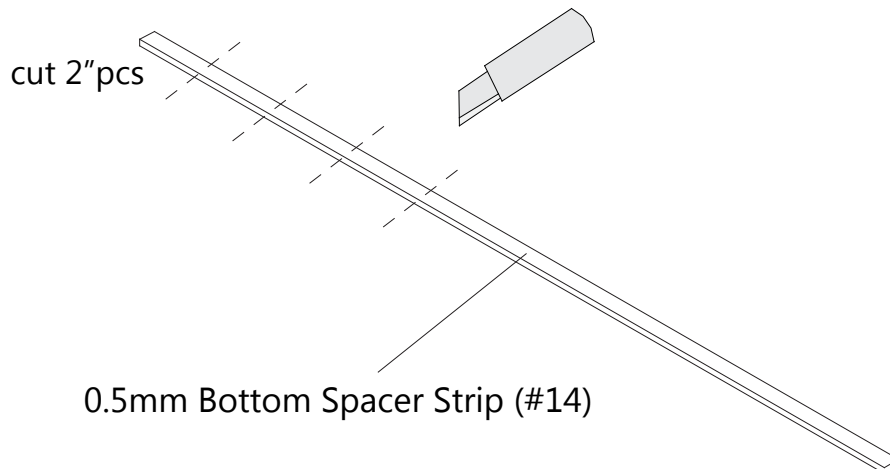

Fig 11
11. Cut the **0.5mm Bottom Spacer Strip (#14)** into four to five 2" pieces and place them into the **Bottom Guide Rail (#03)** (after the silicone) to protect the bottom edge and corners of the **Stationary Panel Glass (#01)**. **(Fig 11)**